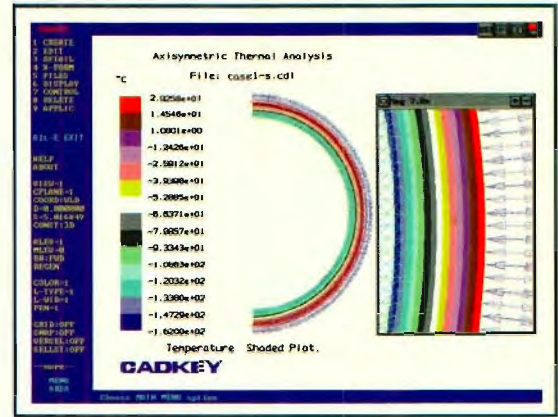

Figure 3
- (1) Figure 3 which describes